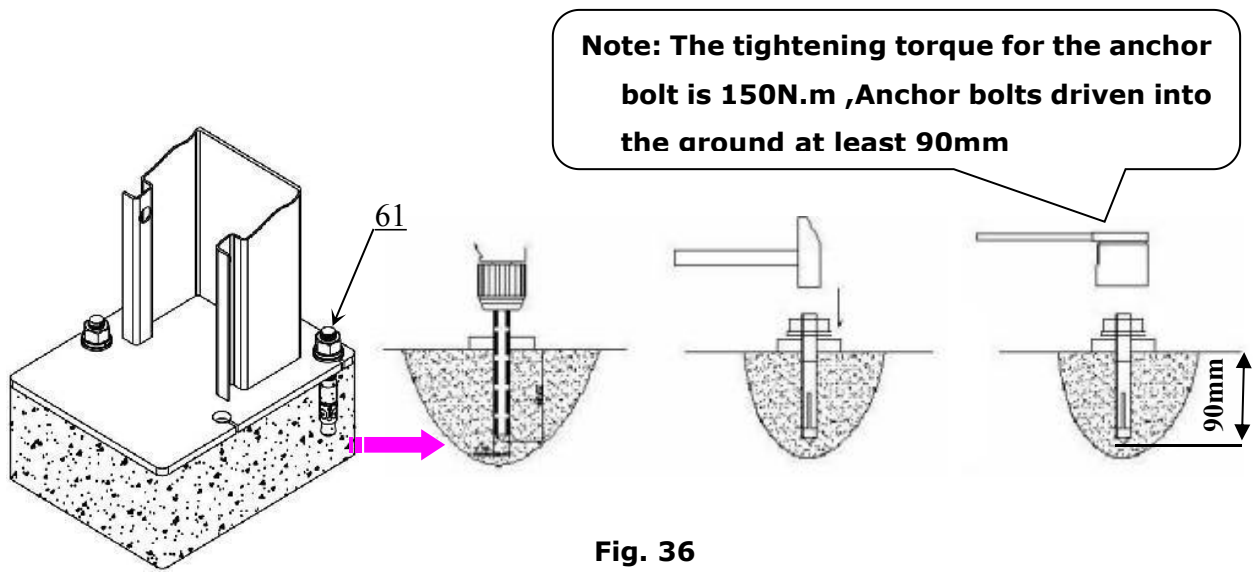

Fig. 36
1.2 Using the prescribed rotary hammer drill, and drill all the anchor holes and install the anchor bolts. Do not tighten the anchor bolts (**See Fig. 36**).